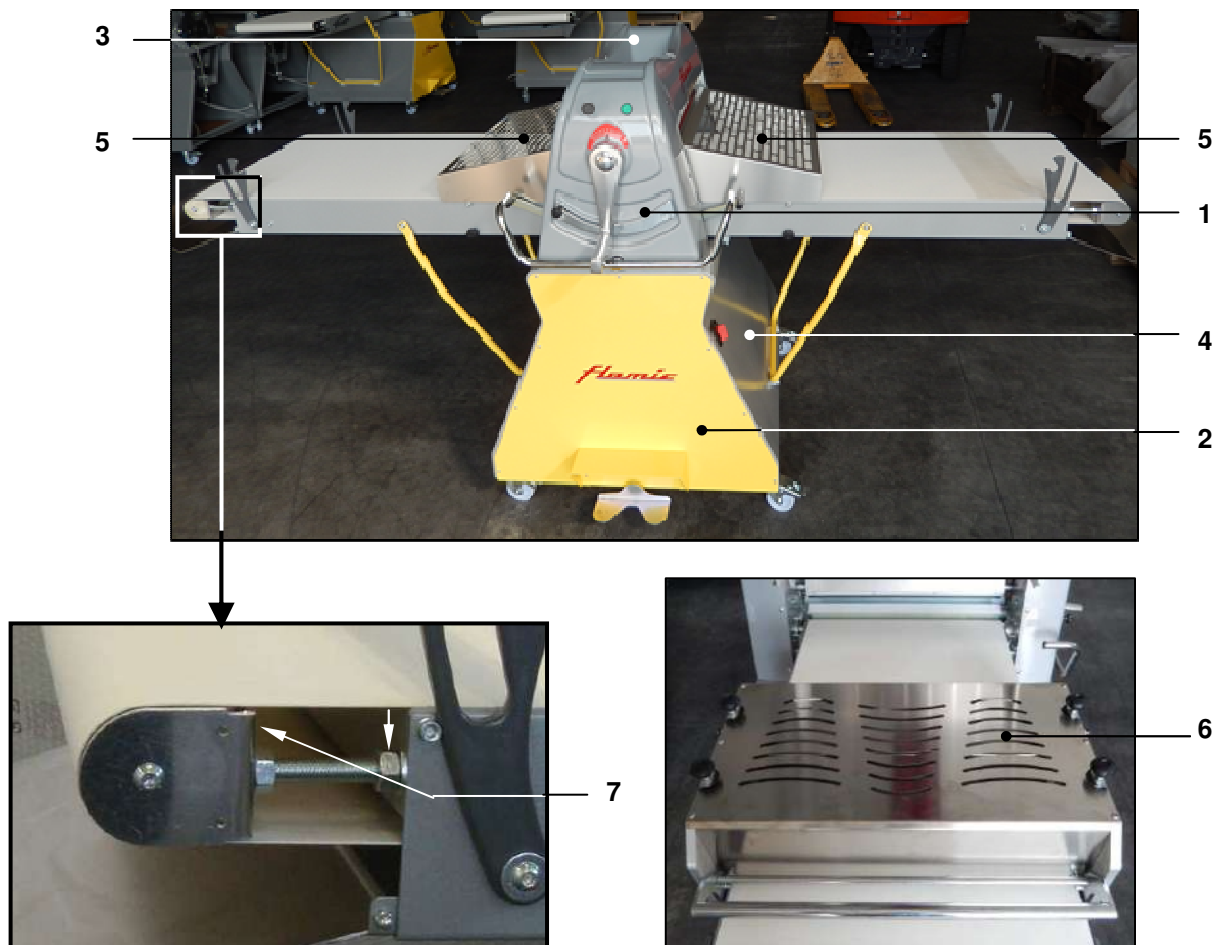

Figure 47 - Guards fastened with screws or similar means
2. **Fixed guards:** These are guards that are secured by fastening devices which can only be removed by using tools. If properly installed and fixed to the support structure, they make it impossible to access, in particular (but not only), the drive mechanisms of the dough thickening rollers and the conveyor belt drive rollers. The main fixed guards of the machine are those indicated in ref. 1, ref. 2 (analogous guards are located in a similar position on the opposite side of the machine) and those in ref. 3 Figure 47. The C profiles ref. 7 Figure 47 that cover the whole length of the conveyor belt rollers (only those at the outer ends of the tables) are also considered to be fixed guards as well as any plates ref. 4 Figure 32. Their maximum distance from the conveyor belt and the roller, must not be greater than 4 mm. The base ref. 4 also prevents access to the transmission components and the uprights and guards ref. 5 act as fixed guards to prevent access to the thickening rollers from the sides and from above. Note also the importance of the cover ref. 6 of the cutting unit. Even if it is not actually a fixed guard (it doesn't need tools to remove it), it is as if it were because when the unit is locked in its working position and the working parts are moving, it is impossible to access them (in this condition the gap through which the sheet of dough passes is such as to prevent the hazardous components from being reached). As soon as the unit is released and raised, the rollers stop due to the lack of friction required to make them move.